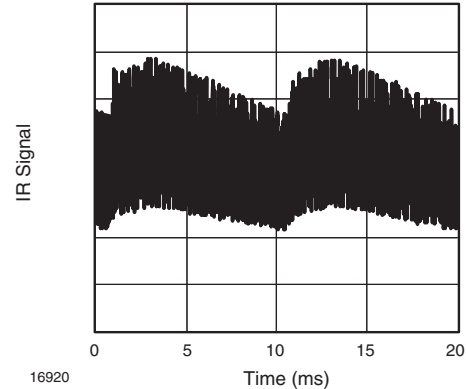
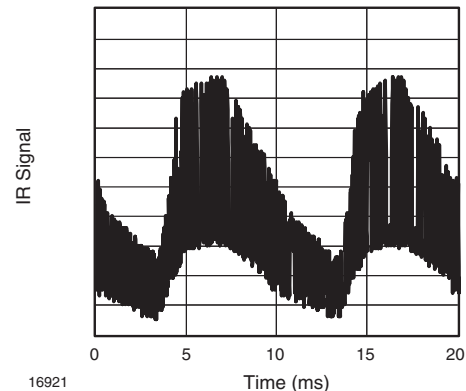

Fig. 13 - IR Disturbance from Fluorescent Lamp with Low Modulation
Fig. 14 - IR Disturbance from Fluorescent Lamp with High Modulation
- Strongly or weakly modulated patterns from fluorescent lamps with electronic ballasts (see figure 13 or figure 14).